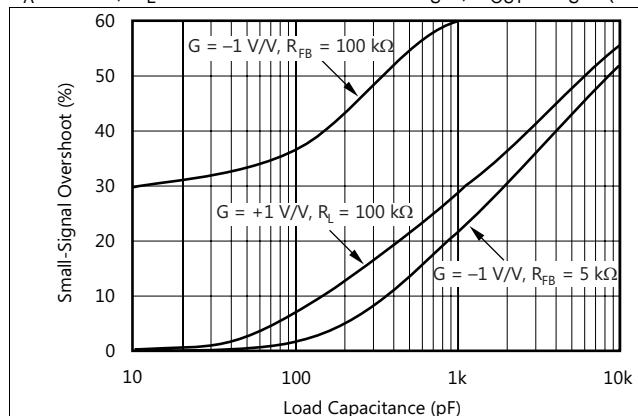

Figure 13. Small-Signal Overshoot vs Load Capacitance
The OPAX348-Q1 family of devices in a unity-gain configuration can directly drive up to 250-pF pure capacitive load. Increasing the gain enhances the amplifier's ability to drive greater capacitive loads (see Figure 13 in the Typical Characteristics section). In unity-gain configurations, capacitive load drive can be improved by inserting a small (10  $\Omega$  to 20  $\Omega$ ) resistor,  $R_S$ , in series with the output, as shown in Figure 24. This resistor significantly reduces ringing while maintaining DC performance for purely capacitive loads. However, if a resistive load exists in parallel with the capacitive load, a voltage divider is created, introducing a direct current (DC) error at the output and slightly reducing the output swing. The error introduced is proportional to the ratio  $R_S/R_L$  and is generally negligible.
In unity-gain inverter configuration, the phase margin can be reduced by the reaction between the capacitance at the op-amp input and the gain setting resistors, thus degrading capacitive load drive. The best performance is achieved by using small-valued resistors. For example, when driving a 500-pF load, reducing the resistor values from 100 k $\Omega$  to 5 k $\Omega$  decreases overshoot from 55% to 13% (see Figure 13 in the Typical Characteristics section). However, when large valued resistors cannot be avoided, a small (4 pF to 6 pF) capacitor,  $C_{FB}$ , can be inserted in the feedback, as shown in Figure 25. This small capacitor significantly reduces overshoot by compensating the effect of capacitance,  $C_{IN}$ , which includes the input capacitance of the amplifier and PC board parasitic capacitance.